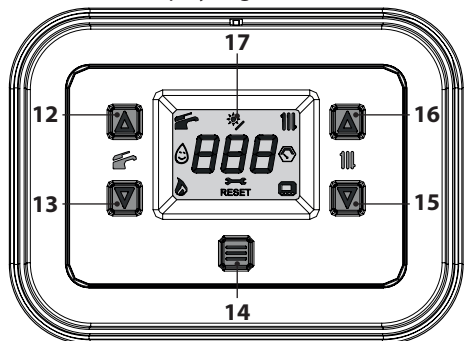
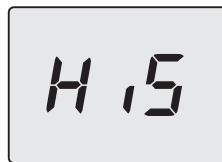

Figure 7.8
Figure 7.9
- Enter "programming mode" by pressing the 13 and 15 keys simultaneously for 5 seconds (Figure 7.8) until **HiS** (Boiler History) appears on the LCD display (Figure 7.9).
- Press the 14 key (Figure 7.8) until the **StF** (Start Full), alternating with **34** (calibration value), appears on the LCD display (Figure 7.11).
- press the 13 and 15 keys simultaneously for 5 seconds (Figure 7.8) (return to previous level).